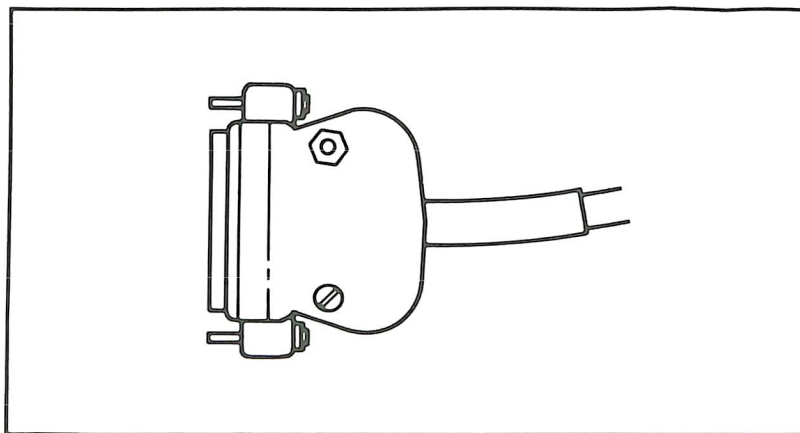

Figure B-6. RS-232-C Cable
- b. Look at the cable hooked up to your printer. If it is an RS-232-C cable (pictured in Figure B-6), touch the SERIAL DEVICE function label () until the asterisk (*) appears, or press the corresponding function key.